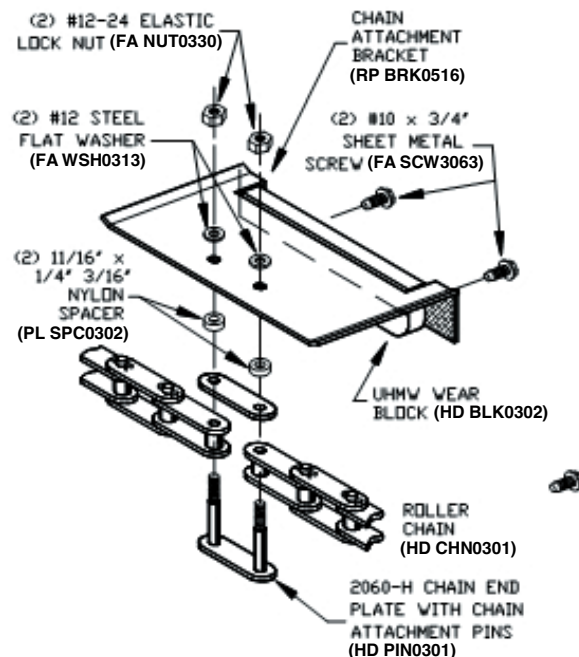

Fig. 2
- E. If the tray carrier attachment brackets must be replaced, care must be taken when tightening the nuts which hold the brackets in place. Over torquing the nuts could pull the shoulders off of the roller chain shafts [Refer to fig. 2].